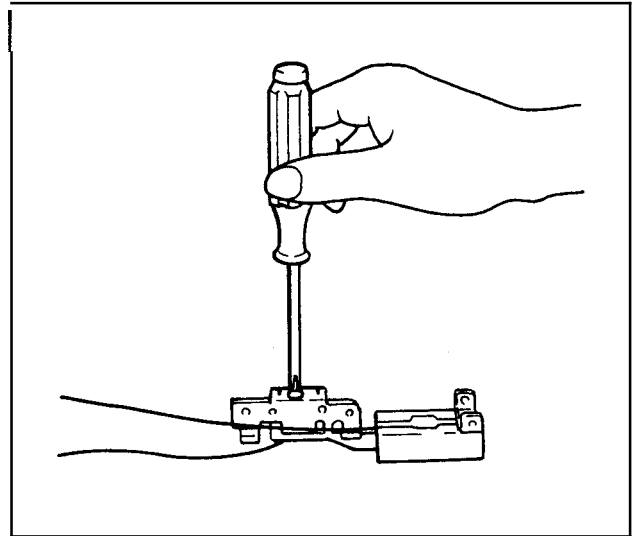

Fig. 14
2. Loosen and remove the screw from the closing plate that does not have the overlap arm. This will release the closing plate from the cable. Discard closing plate. (Fig. 14)